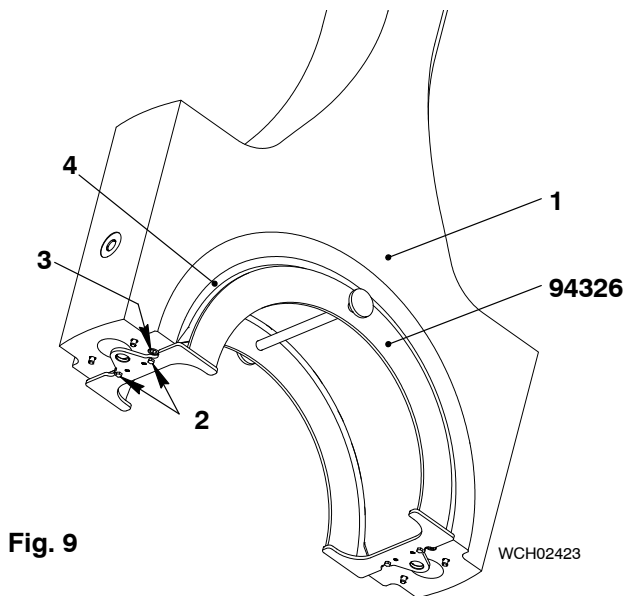
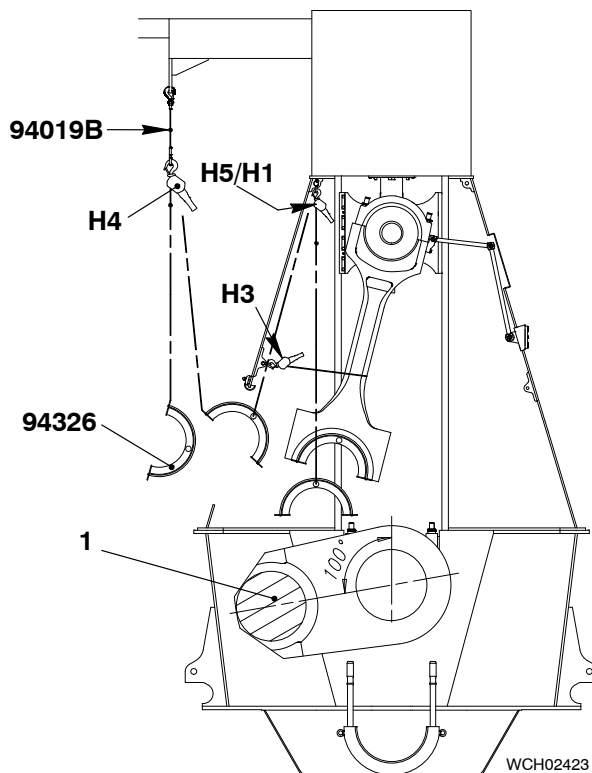

Fig. 9
Fig. 10
- 1) Clean the seating surface of the connecting rod (1, Fig. 9) and the bearing shell (4).
- 2) Put the bearing shell (4) on the console frame (94326)
- 3) Tighten the four screws (2).
- 4) Clean the seating surface of the connecting rod (1) and the bearing shell (4).
- 5) Attach the manual ratchet (H4, Fig. 10) to the console frame (94326).
- 11) Attach the bearing shell (4, Fig. 9) to the connecting rod (1) with the two screws (3).
- 13) Make sure that the surface of the crank pin (1, Fig. 10) is in a satisfactory condition.